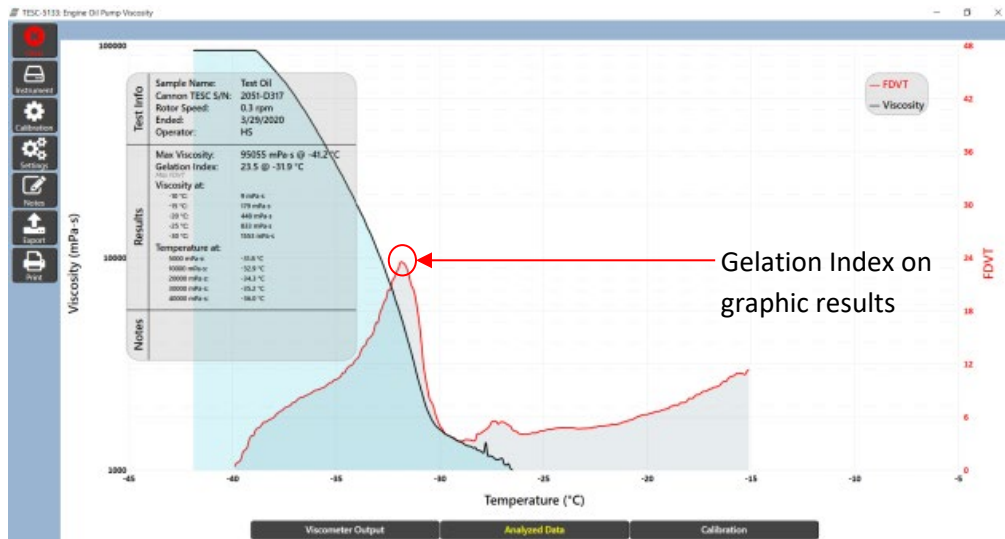

Figure 40: Results of Sample Run
12. When the sample run is complete, results are displayed in graph format on the PC screen as shown in Figure 40.